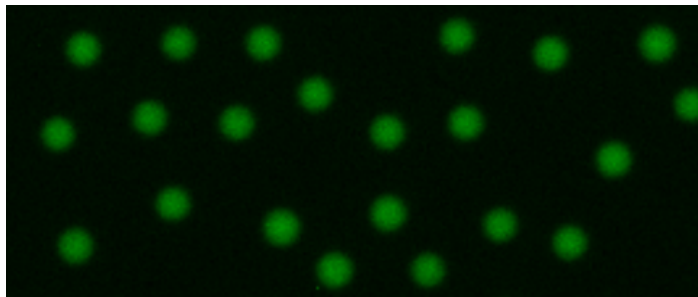

Figure 4. Ideal focus for beads in the green channel.
- f. Begin adjusting the focus by zooming in on the beads using pinch/zoom. Focus so that the beads appear sharp against the background as in Figure 4 below. Press OK to save the focus position. Please note that autofocus should not be used during this process.